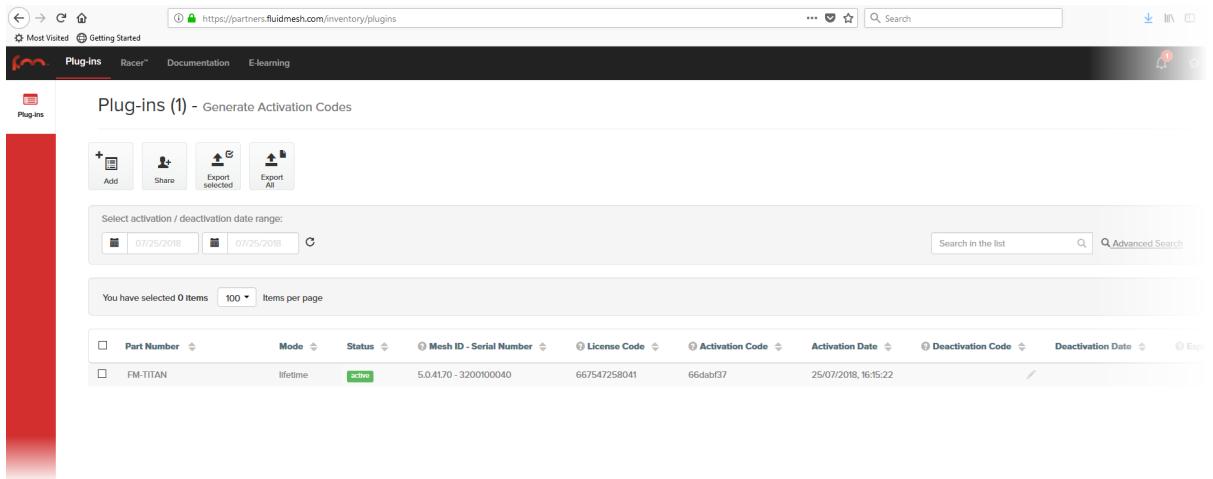

Figure 67. Partner Portal Plug-ins page (License code deactivation)
- The Plug-ins web page will be shown (Figure 67 \(page 153\)).